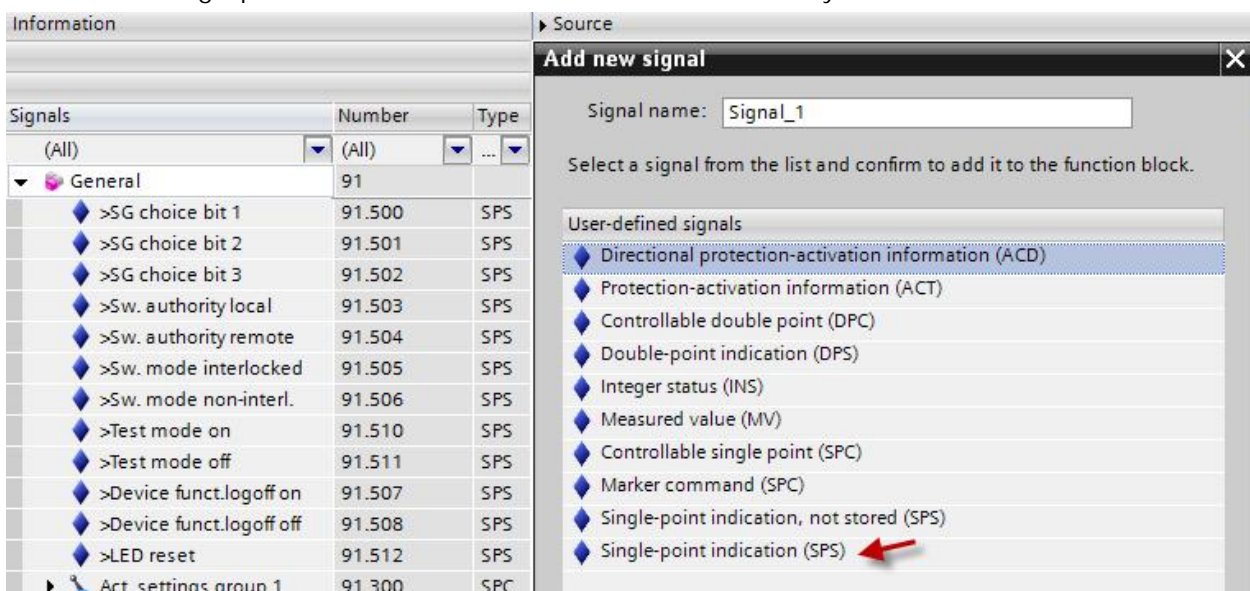

Figure 1: Function block „general“ in the editor „information routing“
2. Open the function block „general“ and add two new single-point indications (SPS). Select the function block „general“ with the mouse and open the dialog „Add new signals“ with the right mouse button, see figure 1.